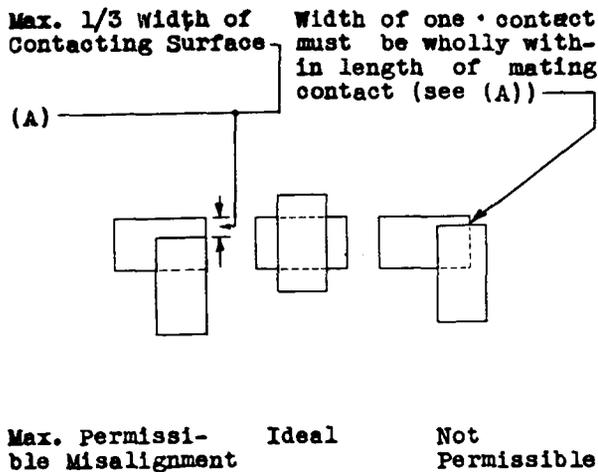

Fig. 2 - Alignment of Contacts
2.03 Contact Alignment: The contact alignment shall be within the limits indicated in Fig. 2. Gauge by eye.